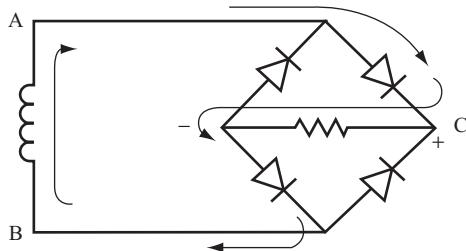

FIGURE 11.18
- 13** Figure 11.18 shows the direction of current flow when the voltage at point A is positive.